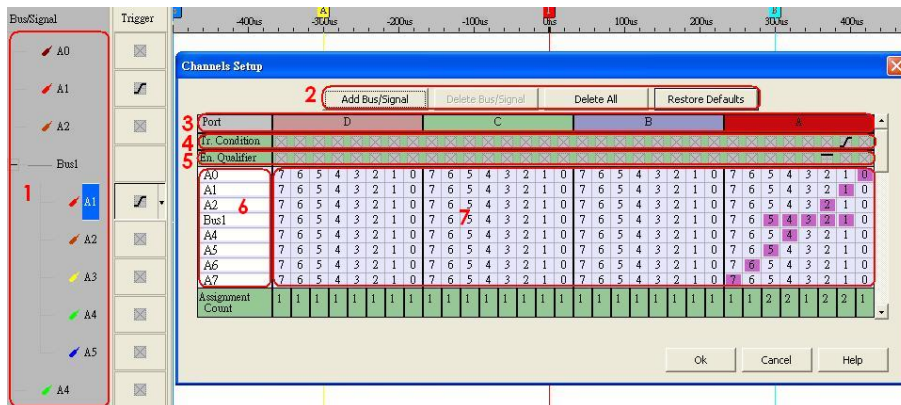

Fig 4-23 – Channel setup Window
1. Delete Bus/Signal, first highlight the bus or channels on area 6 of Fig 4-23, then click Delete Bus/Signal to delete it.
2. Delete All, click Delete All to delete all bus/signals on area 6 of Fig 4-23.